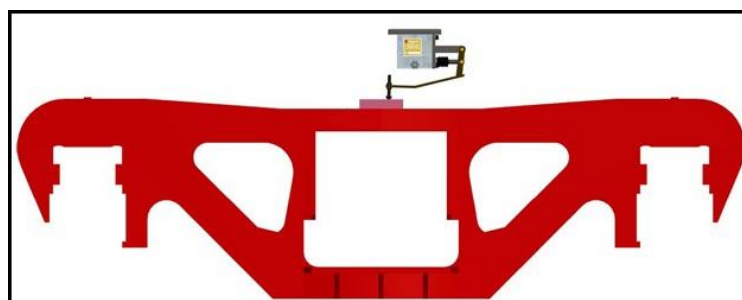

Figure 21: ERV (APM) Loaded position (Block added)
2. Check the sensing arm (1), for any unwanted bending or damage. Move the arm downward and confirm proper working of the valve.
3. ERV/APM is installed using a mounting bracket (14) for mounting with the under frame before the pipe assembly.
7. Release brakes using SWTR. Put a block of 1 inch between 'sensing arm bolt head' and 'side frame' (Refer Fig 21). ERV/APM device is acting in loaded mode now. Apply brakes by SWTR. The output pressure of ERV/APM device shall display $3.8 \pm 0.1 \text{ kg/cm}^2$
11. ERV/APM indicator shows the empty/load condition of the air brake application. It is also provided with a pressure test plug (11) for checking brake cylinder pressure.